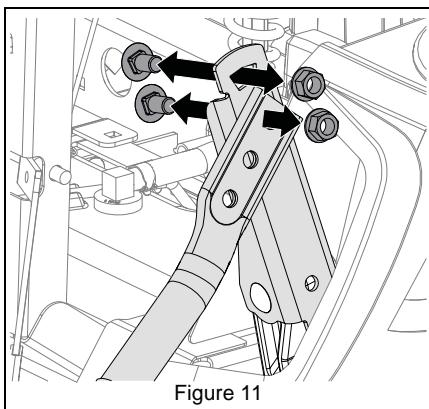

Figure 11
1. Remove two jam nuts, two flat steel washers and two round head square neck bolts from the steering levers. Retain hardware for reinstallation. See Figure 11.